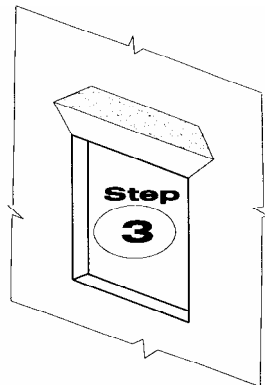

Figure 4 Cut head flap of WRB and fold up.
Step 3. Cut diagonal slits from top of opening corners through WRB a distance equal to just more than the width of jamb/head flashing tape used. Fold flap of WRB above opening head and temporarily in place (see Figure 4).